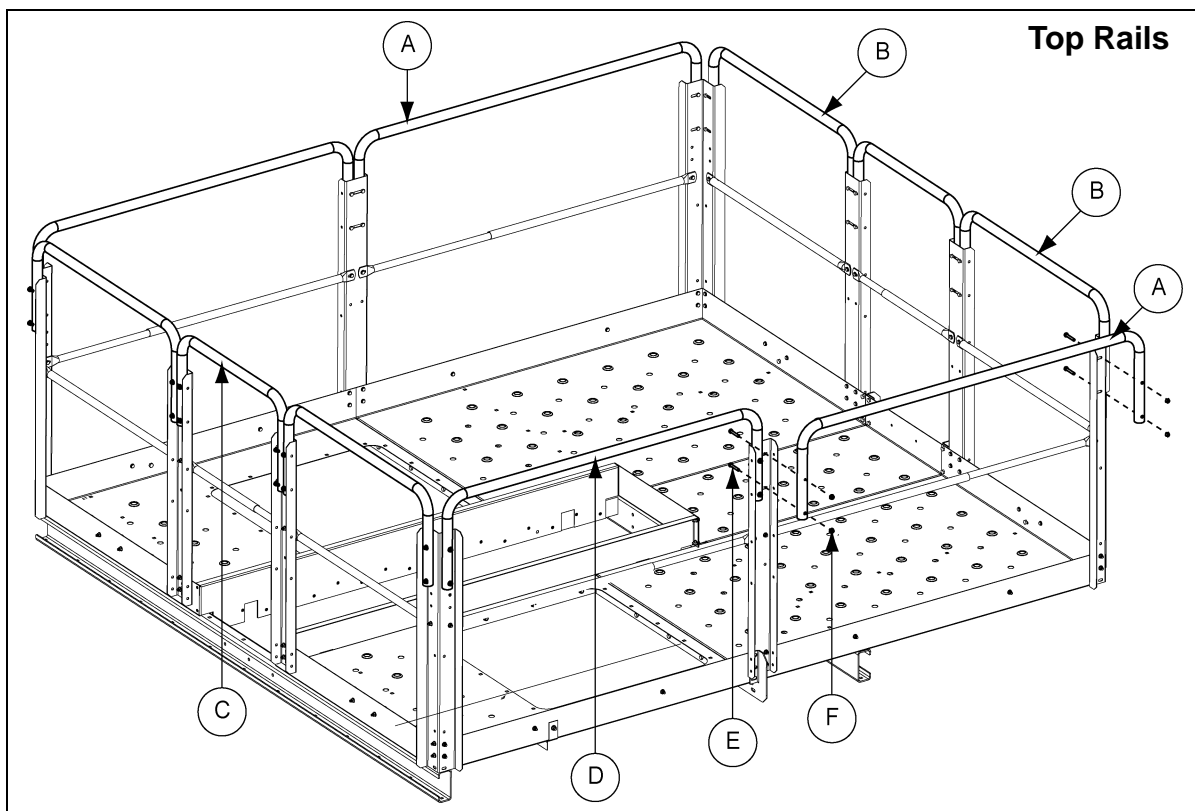

Figure 8U Top Rails
1. Attach two (2) 25.6" in length middle drive handrails (HP1624HMD) along Deck E and the lower head. These are the two (2) shortest sections of upper handrail. Connect using 5/16" nuts (S-3611) and 5/16" x 2" bolts (S-7877). (See Figure 8U.)
2. Attach four (4) hatch handrails (HP1648HHS): one on each side of the middle drive at each end of the platform. Handrails will fit without adjustment. Connect using 5/16" nut (S-3611) and 5/16" x 2" bolts (S-7877). Torque to standard specifications.
3. Two (2) 59.183" far hatch handrails (HP1624HFH) and two (2) 54.65" handrails (HP1624HNNH) opposite each other along Deck A and Deck C using 5/16" x 2" bolts (S-7877) and 5/16" nuts (S-3611).